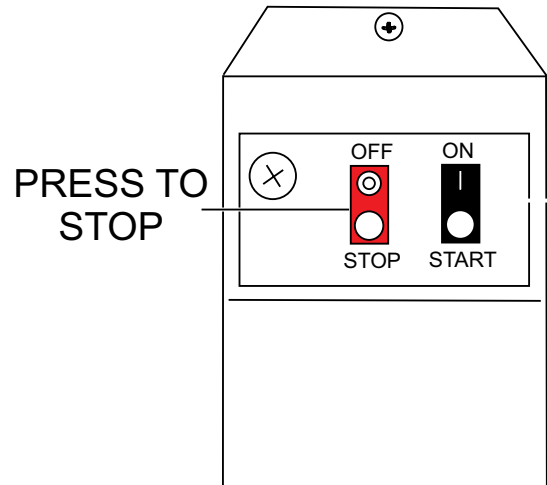

Figure 29. Electric Motor OFF/STOP Switch
1. To stop the electric motor, press the **RED** OFF/STOP switch (Figure 29).